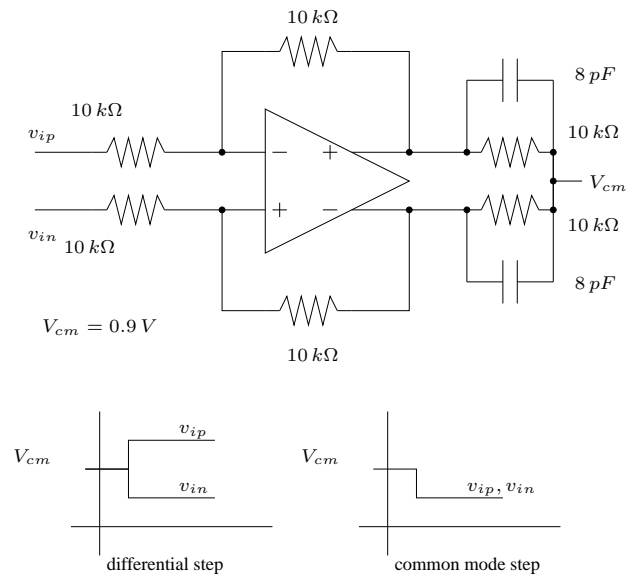

Figure 7: Inverting amplifier
5. Simulate the response of the circuit in Fig. 7 to a differential step of 1 V and plot the output. Also plot the output for a 0.5 V common mode step. Use the two stage fully differential opamp designed above.